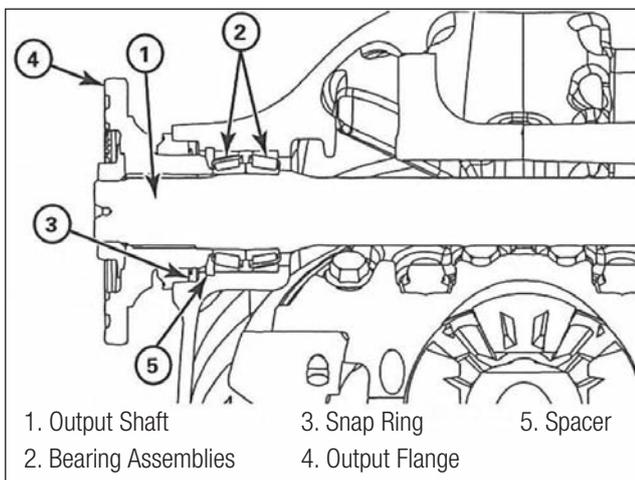

Fig. 2.125
1. Lubricate the bearing cups and the cones with axle lubricant. Figure 2.125